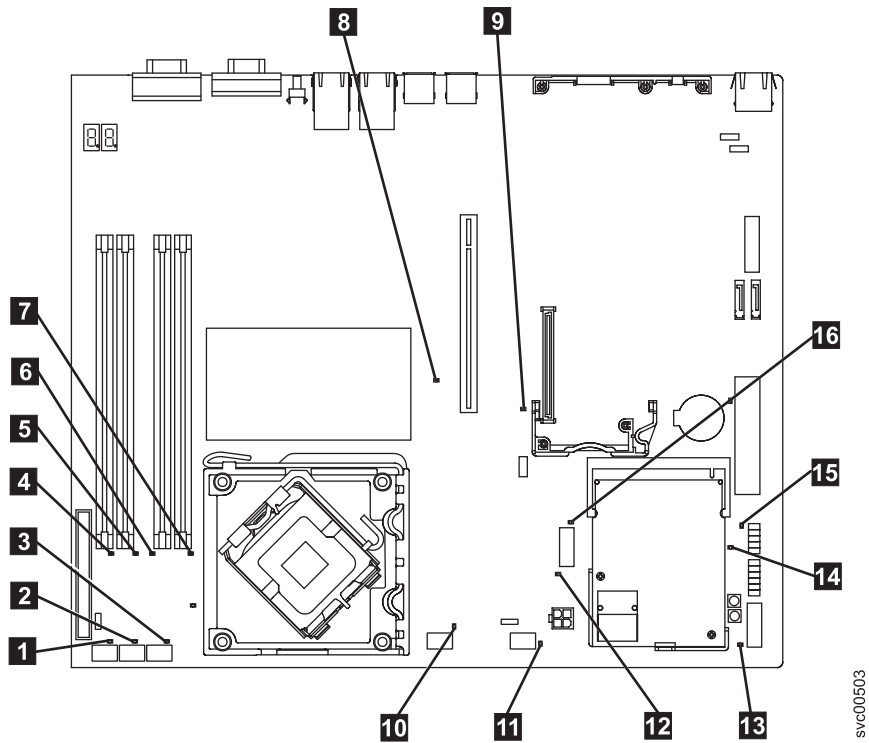

Figure 88. SAN Volume Controller 2145-8A4 system board LEDs
- Remove the node from the rack and remove the top cover. Reconnect the power cable, which is still connected to the 2145 UPS-1U, to the node. **Is the standby power LED that is on the system board illuminated?** Figure 88 on page 374 shows where the diagnostics LEDs are located on the system board.